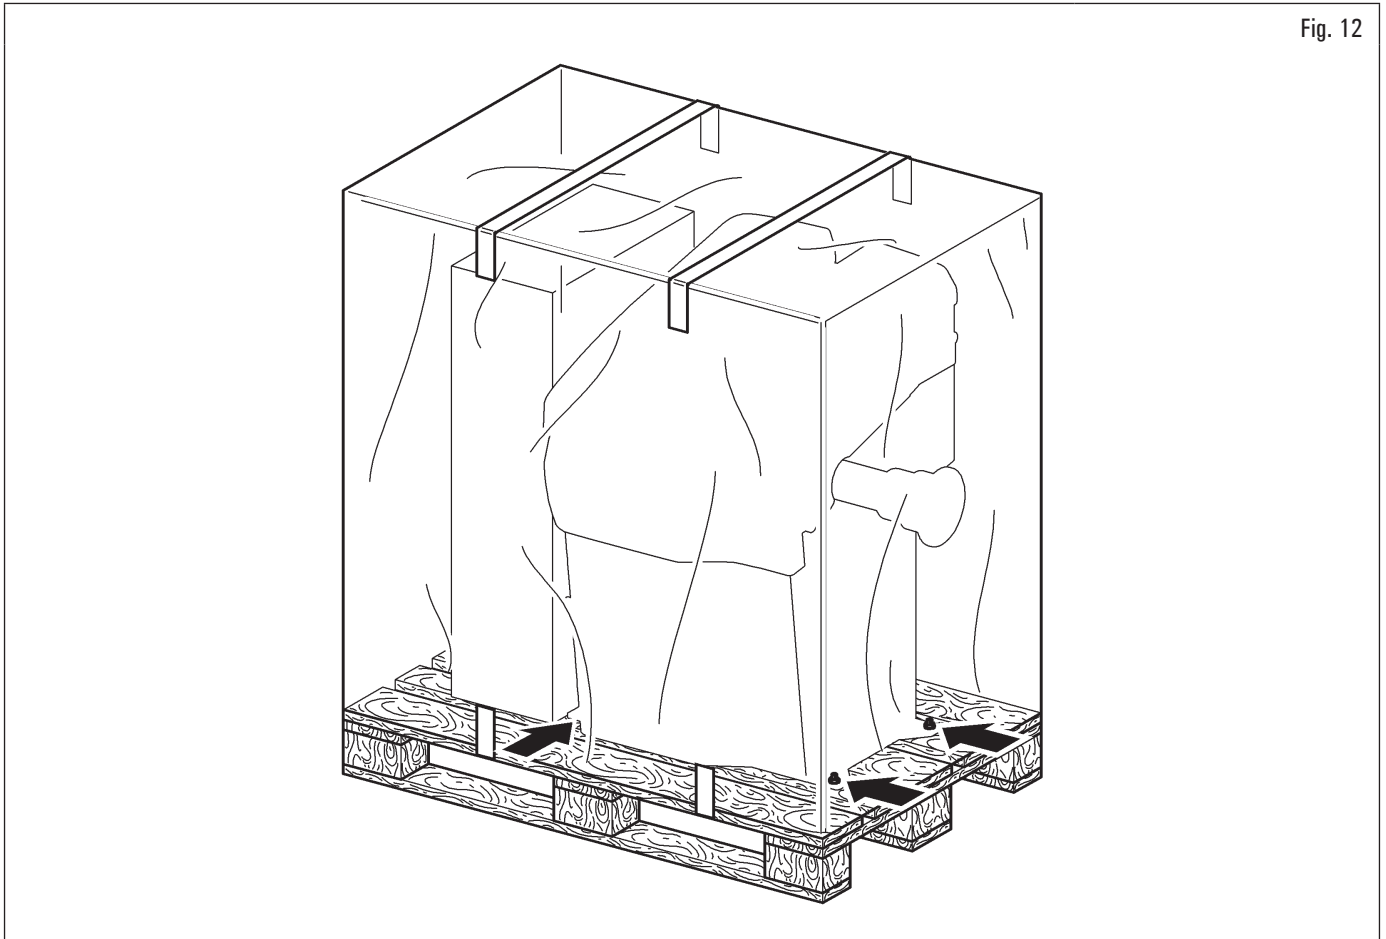

Fig. 12
- The equipment is usually shipped partially assembled as shown in Fig. 12.
- lift carefully, using adequate load support means, in perfect working order, using the appropriate signs placed on the packaging Fig. 12.